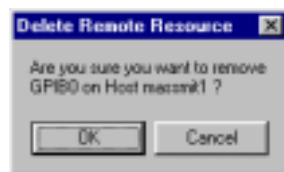

Figure 68. TekVISA Delete Remote Resource dialog box
2. Click **Delete**. The Delete Remote Resource dialog (Figure 68) appears. The dialog describes the resource to be removed and provides an opportunity to confirm or cancel the operation.